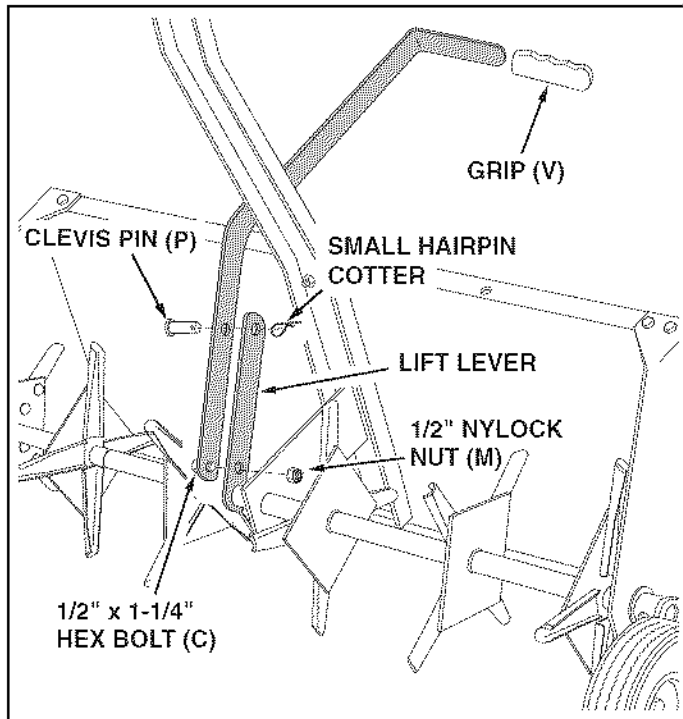

FIGURE 11
- Turn the lift handle as shown in figure 11 and attach it to the side of the lift lever that is indicated. Use a 1/2" x 1-1/4" hex bolt (C) and 1/2" nylock nut (M) in the bottom hole and the clevis pin and small hairpin cotter in the top hole. **Tighten** the bolt and nut. See figure 11.
- Push the grip (V) onto the lift handle. See figure 11.